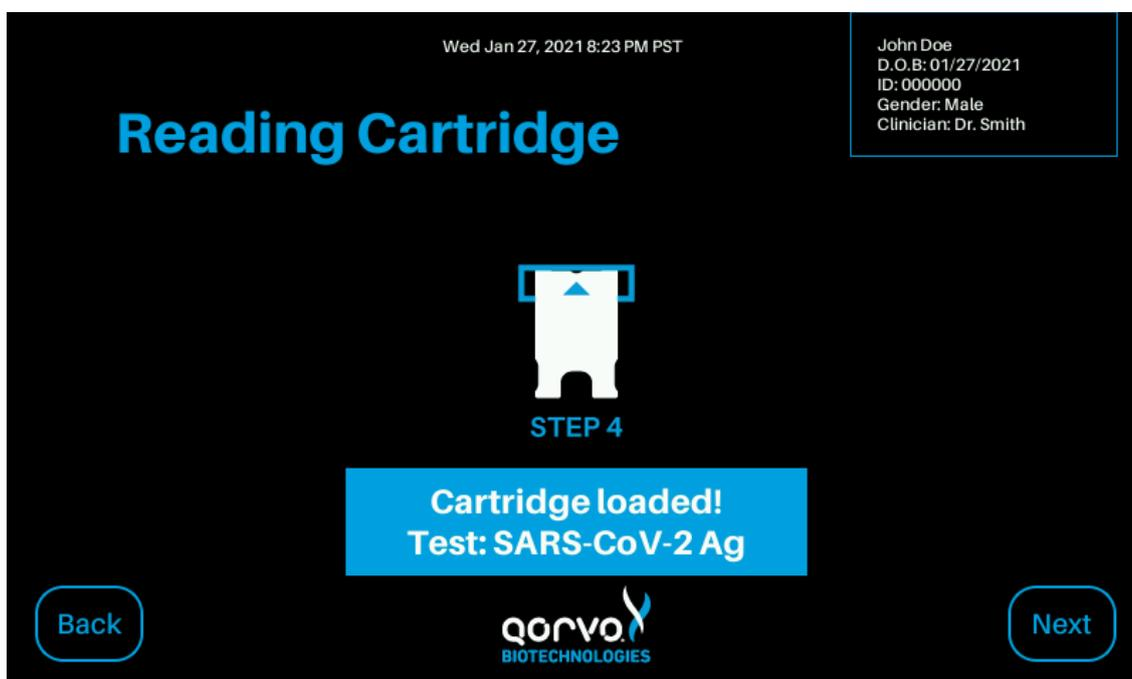

Figure 27
- Each cartridge contains a radio-frequency identification (RFID) tag that communicates with the instrument as to the cartridge type. The RFID tag informs the instrument which assay to run and informs the user which sample types are compatible with the selected cartridge (Figure 27).
Note: The assay information in Figure 27 is an example only. Refer to Qorvo Omnia test cartridge Instructions for Use for assay-specific information.